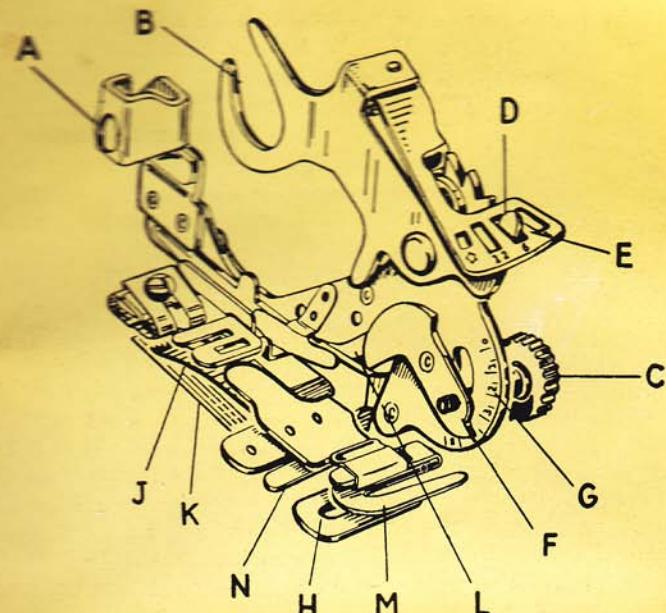

Fig. 51
Fig. 51 indicates the principal parts of the ruffler with the use of which the operator should be thoroughly acquainted. These parts are as follows:
- 1) Raise adjusting lever « E » (Fig. 51) and move it to the left until projection « D » enters in slot marked « 1 ».
- 1) Raise adjusting lever « E » (Fig. 51) and move it to the right until projection « D » enters in slot marked « 6 ».
- 1) Raise adjusting lever « E » (Fig. 51) and move it so that projection « D » enters in slot marked « 12 ».
The ruffler can be adjusted for group pleating by lifting the adjusting lever « E » (Fig. 51) and moving it to the right until the top of the projection « D » enters the short slot indicated by a star.